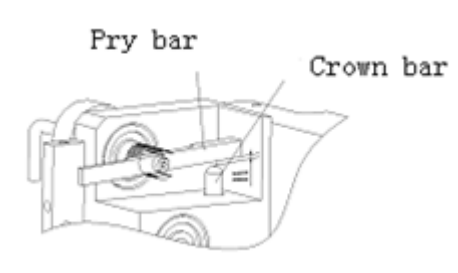
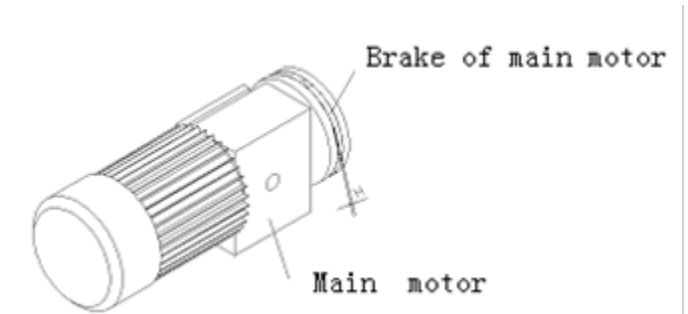

Fig. 4-1
Fig. 4-2
1mm strap can be used by adjusting the gap between the crown bar and pry bar to 0.3mm (Fig. 4-1). Additionally, the gap between the main motor and the brake should be set between 0.2mm and 0.3mm (Fig. 4-2).
- a. If not on strap-withdrawing, the gap between crown and pry bar should be 0.3mm. (Fig. 4-1)